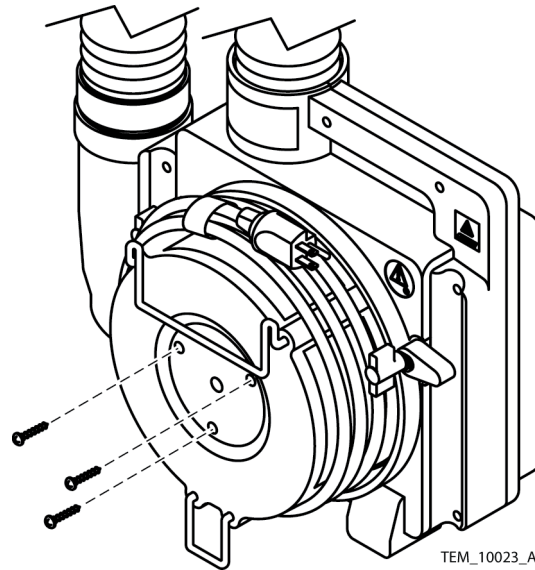

Figure 5-46. Filter Cover Screws
3. Remove the filter cover screws from the warming system. See Figure 5-46.